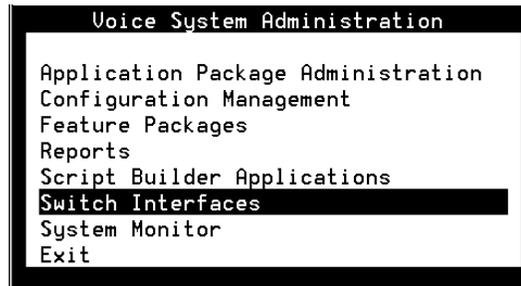

Figure 6-1. Voice System Administration Menu
The system displays the Voice System Administration menu (Figure 6-1)
The system displays the Voice System Administration Menu (Figure 6-1).
1. Start at the Voice System Administration Menu (Figure 6-1)
1. Start at the Voice System Administration Menu (Figure 6-1) and select